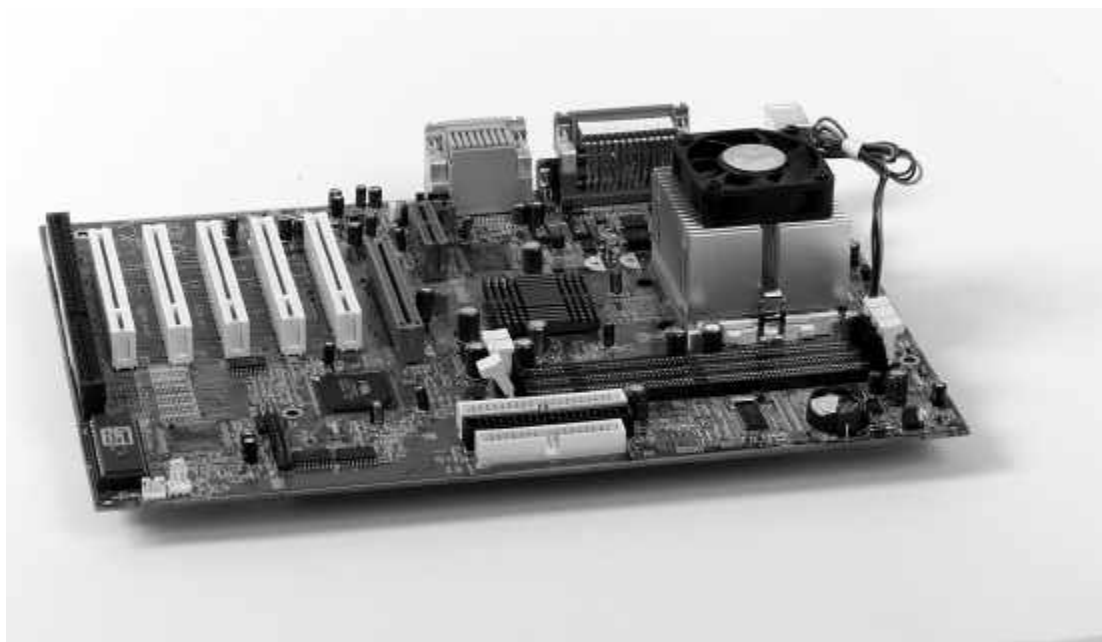

Figure 21. The Heat sink is Installed, the Installation is Ready to be Double-checked
21. The heatsink and fan are now fully installed. Figure 21 shows the installation.